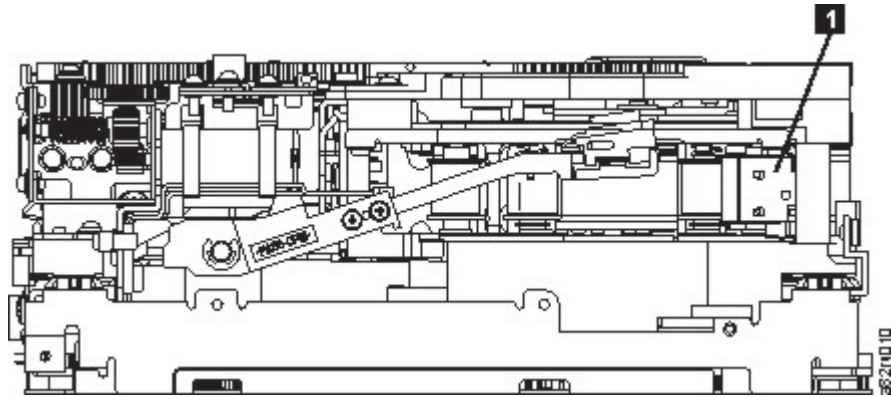

Figure 115. Leader Block Assembly (LBA)
10. Rotate the threader motor worm gear (**4** in Figure 114 on page 190) to turn the threader mechanism gear (**6** in Figure 114 on page 190) counterclockwise. This action moves the LBA out of the cartridge and past the read/write head. Stop this rotation when the LBA is near the tape guide roller nearest the rear of the drive that is shown as **1** Figure 115 on page 191.